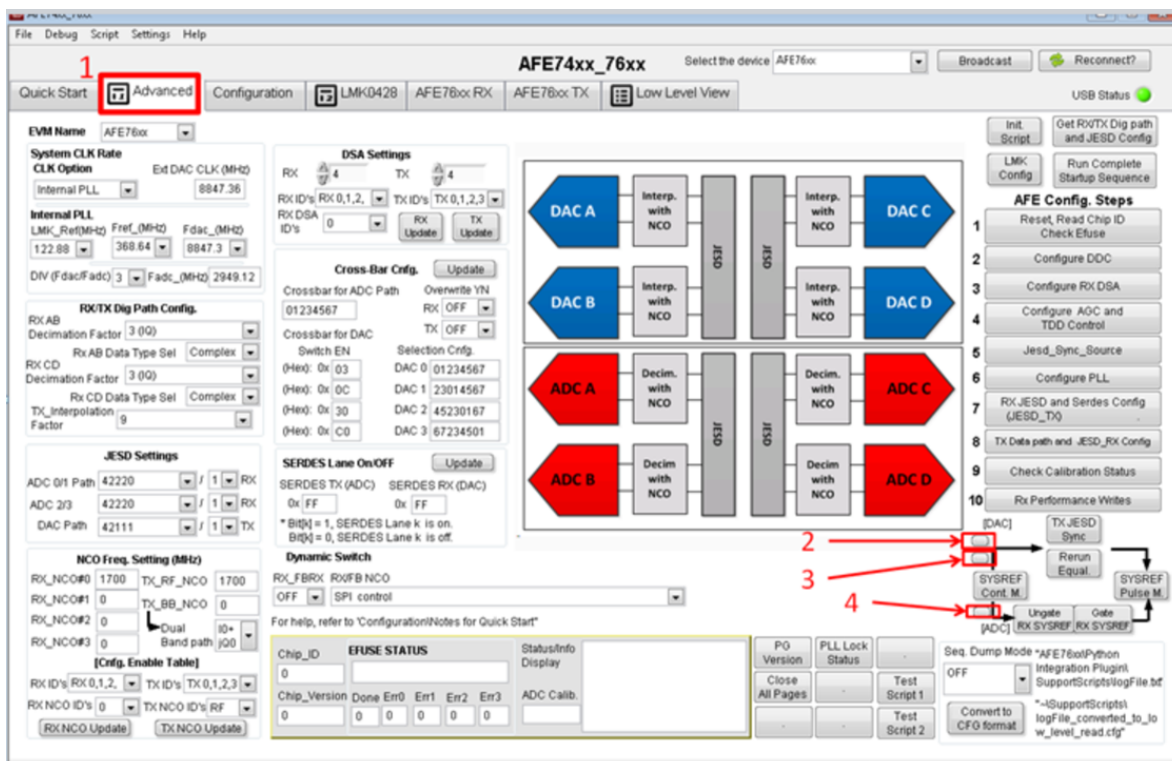

Figure 20. Troubleshooting the AFE74xxEVM DAC
2. If Step 1 does not work, navigate to the advanced panel in the GUI labeled 1 in Figure 20. Click the buttons labeled 2, 3, and 4 in that order. These buttons manually force a handshake of the JESD204B links. Check to see if the tones are now visible on the spectrum analyzer.